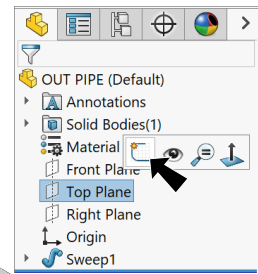

Fig. 14
Step 1. Click **Top Plane**  in the Feature Manager and click **Sketch**  on the context toolbar, **Fig. 14**.